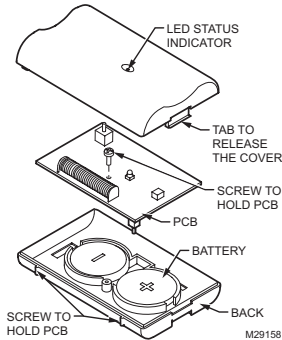
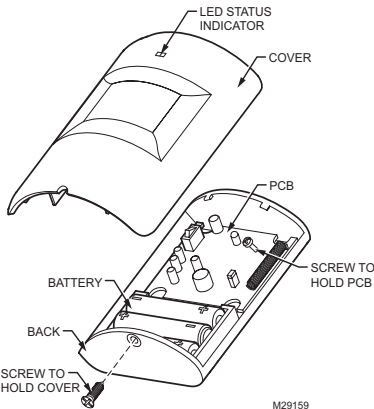

Fig. 11. Door sensor battery replacement.
Fig. 12. PIR occupancy sensor battery replacement.
2. Power the PIR sensor by inserting the three AAA batteries provided. See Fig. 12 for proper battery orientation.
For correct battery replacement, note the battery polarity orientations in Fig. 11 and Fig. 12.